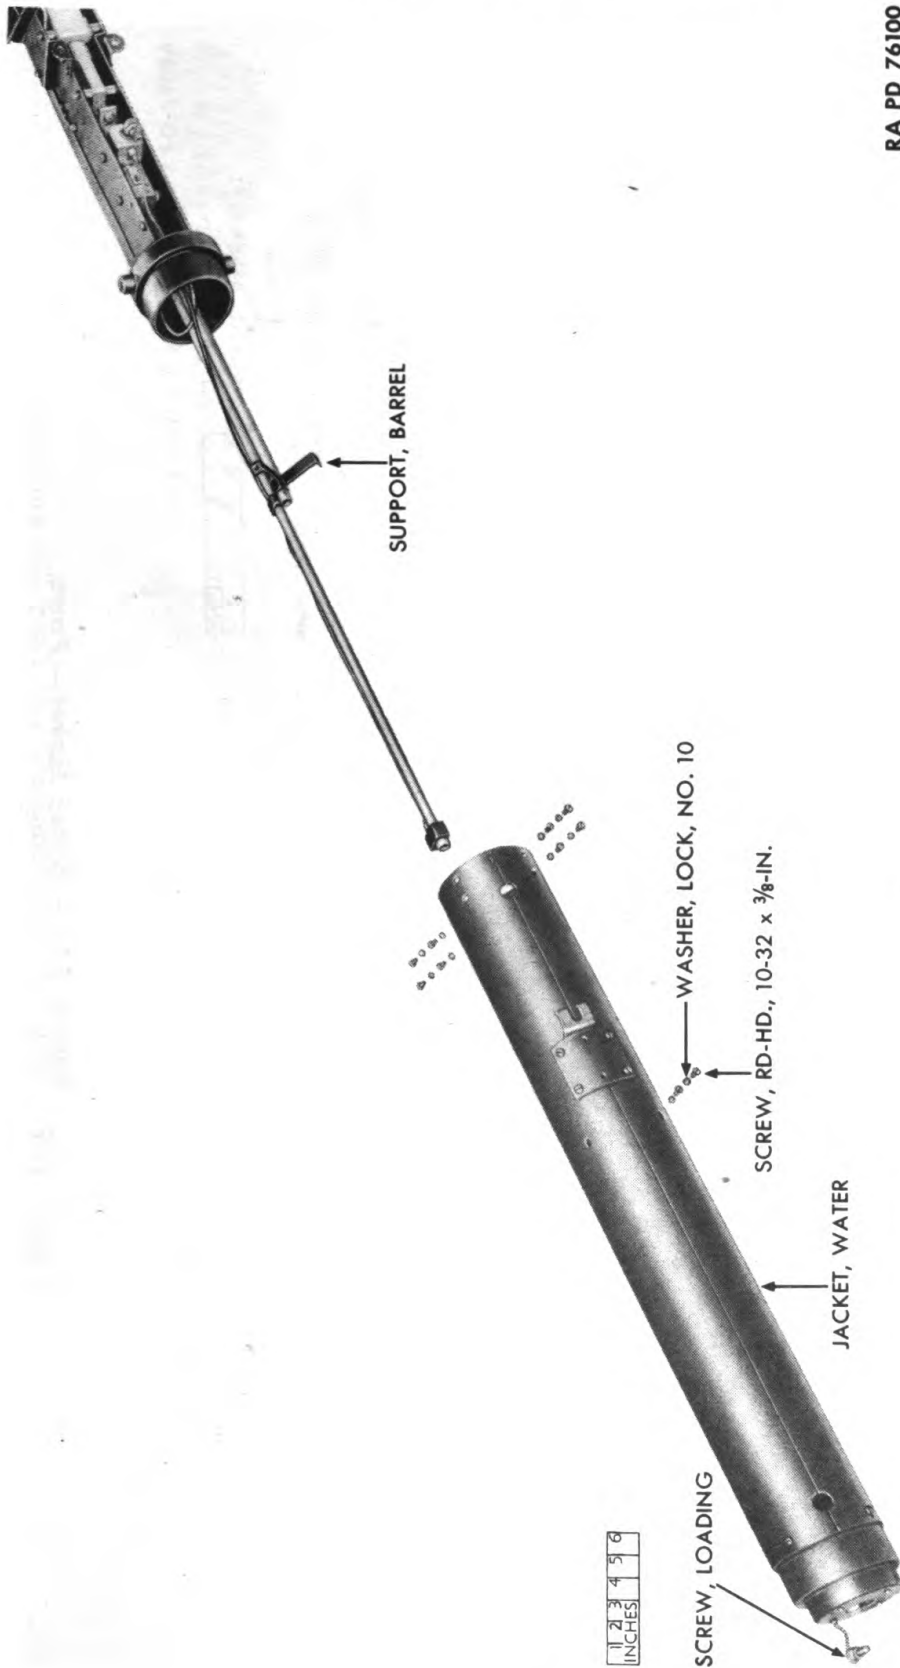

Figure 110 — Water Jacket and Barrel Support
(5) Remove the two screws and nuts holding the barrel support (fig. 110). Remove the eight water jacket screws. Unscrew the loading screw.